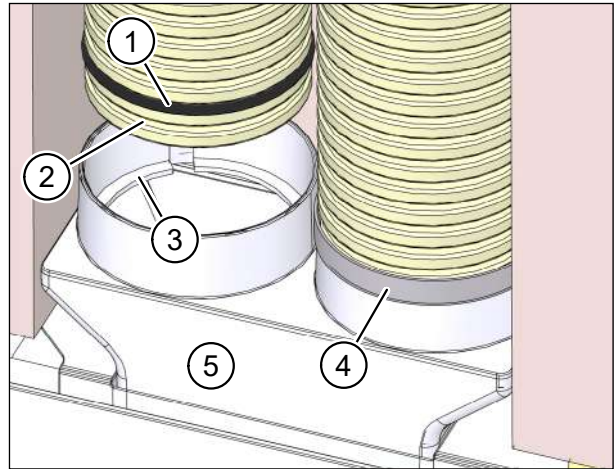

Fig. 28: Fixing a flexible pipe connection with sealing tape
- ▶ Insert the sealing rings (item 1 in Fig. 28) into the second groove on the flexible pipe. These are available as accessories M-WRG-FR-DR75 (part no. 5056-41/75).
- ▶ Insert the flexible pipes into the openings in the flexible pipe adapter (item 5 in Fig. 28). Make sure that the first groove on the flexible pipe (item 2 in Fig. 28) engages with the locking ring (item 3 in Fig. 28) on the flexible pipe adapter.
- ▶ Recommendation: Seal the join with a layer of sealing tape 30 mm wide (item 4 in Fig. 28).